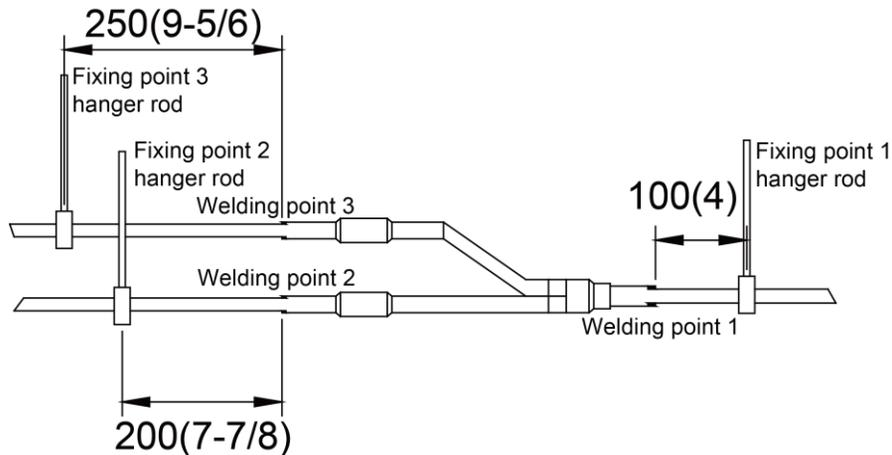

Fig.28
(3) There must be three fixing point for both horizontal and vertical installation of the Y-type manifold. See Fig.28.